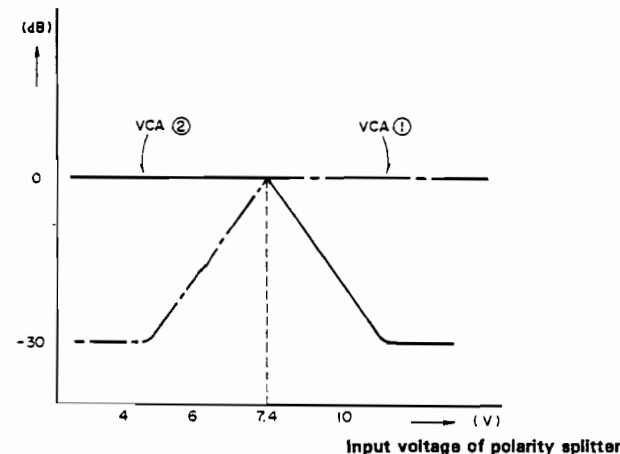

Figure 10-5. VCA (1) and (2) characteristics
6. The polarity splitter controls VCA ① and VCA ② to achieve opposite characteristics as shown in Figure 10-5.